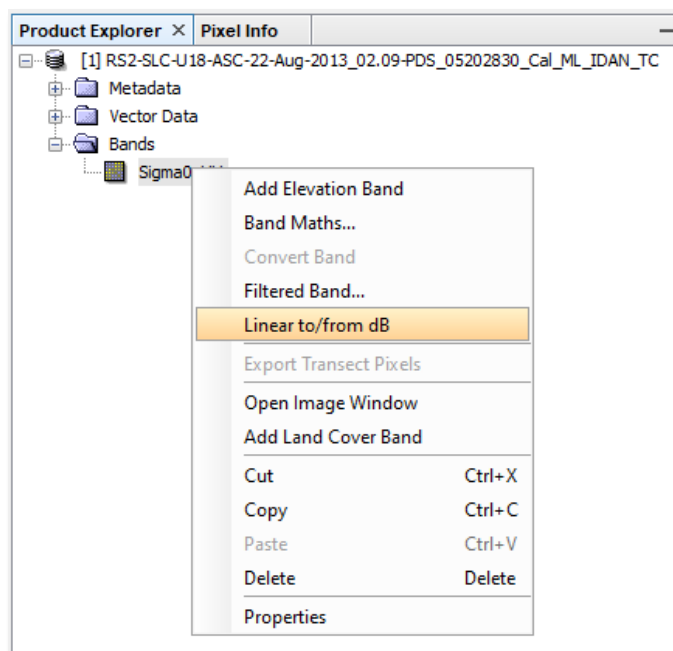

Figure 13: Conversion to dB scale
Step 5 – Conversion to dB scale: To view the image in decibel scaling, right-click on the terrain corrected **Sigma_HH** band and select **Linear to/from dB** to convert the data using a virtual band (Figure 13 and Figure 14).